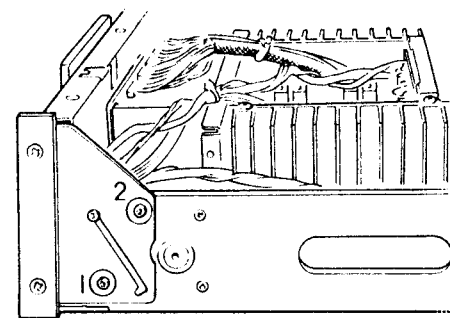

Fig. 8
- a. Remove screws ① and ② in Fig. 8.